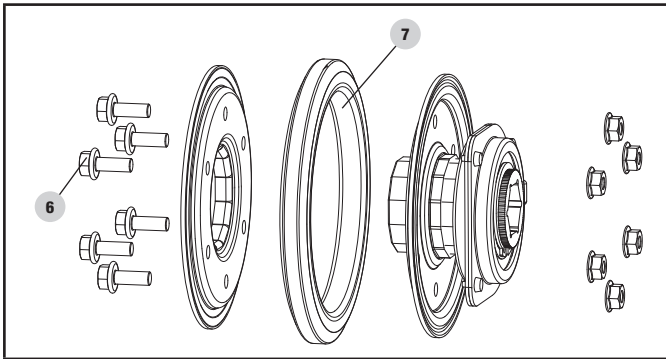

Figure 35
6. Unscrew the six M6 × 16 bolts (6) of the friction disc assembly to discard the worn friction wheel rubber ring (7) and replace with a new one (Fig. 35).